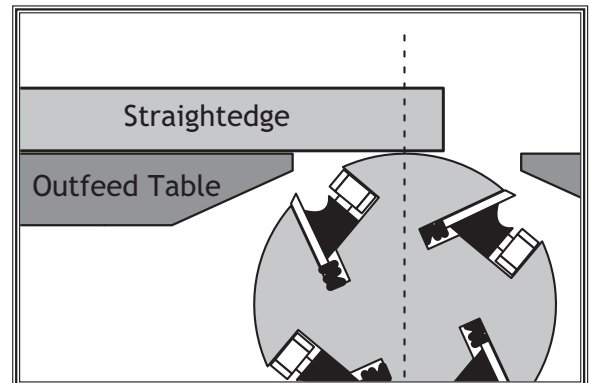

Figure 44. Adjusting outfeed table even with cutterhead body.
4. Place the straightedge on the outfeed table so it hangs over the cutterhead, and lower the outfeed table until the straightedge just touches the cutterhead body, as shown in **Figure 44** (rotate the cutterhead if necessary).
1. Place the straightedge on the outfeed table so it hangs over the cutterhead, and lower the outfeed table until the straightedge just touches the cutterhead body, as shown in **Figure 44** (rotate the cutterhead if necessary).